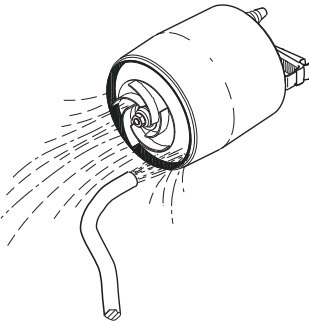

Fig. 13 How to flush the impeller
6. Clean the impeller. See fig. 13.